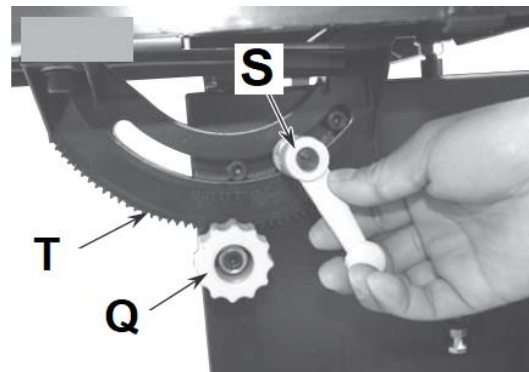

Fig 20
- Turn the table tilt lock lever (S, Fig 20) counter clockwise.
- Turn the table tilt adjustment knob (Q) until the pointer is at the desired angle on the table tilt scale (T).